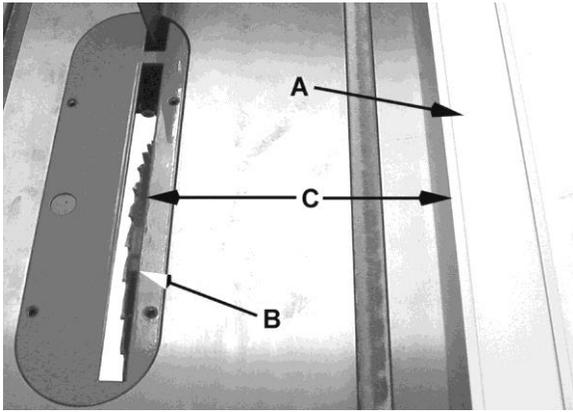

Figure 8-4
The *rip fence* (A, Figure 8-4) should be set for the *width of the cut* (C) by using the scale on the front rail, or by measuring the distance between blade (B) and fence (A). Stand out of line with saw blade and workpiece to avoid sawdust and splinters coming off the blade or a kickback, if one should occur.